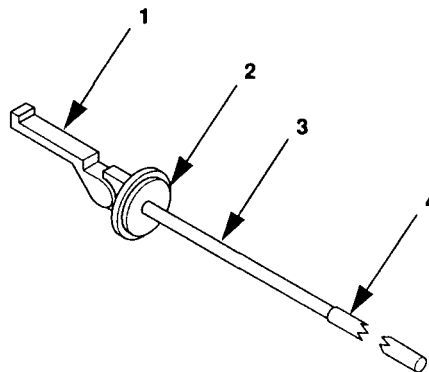

Figure 2-7. Fuel Container Adapter.
- b. Remove fuel container adapter (figure 2-7) from accessory box. The fuel container adapter consists of strainer clamp (1), adapter (2), pipe (3), and extension pipe (4).